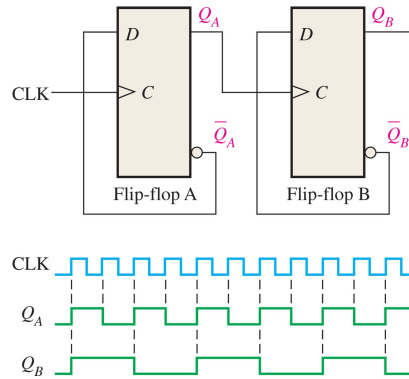

Figure 7: Two D flip-flops forming a frequency divider.
1. Consider Fig. 7, in which a divide-by-four frequency divider is depicted with D flip-flops and a CLK signal. (a) Elaborate on this circuit to create a circuit that can divide the clock frequency by 2, 4, or 8. Show the flip-flops explicitly. (b) Develop a symbol for the 2-4-8-16 divider, with CLK signal input and four outputs (one each for $f/2$, $f/4$, $f/8$, and $f/8$, where f is the clock frequency). (c) Connect the symbol for the new part to a symbolic 4-to-1 multiplexer with the appropriate number of data select lines to form a clock division system. (d) Show with a timing diagram the output if the user changes the data select lines at least once. For parts (b)-(d), it is only necessary to show symbols rather than individual flip-flops.